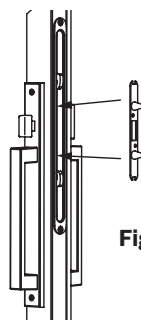

Figure 6
6. To locate the keeper position on the jamb, place black locator within the latch (Figure 6) and close the active panel strong enough to dimple the side jamb (Figure 7).